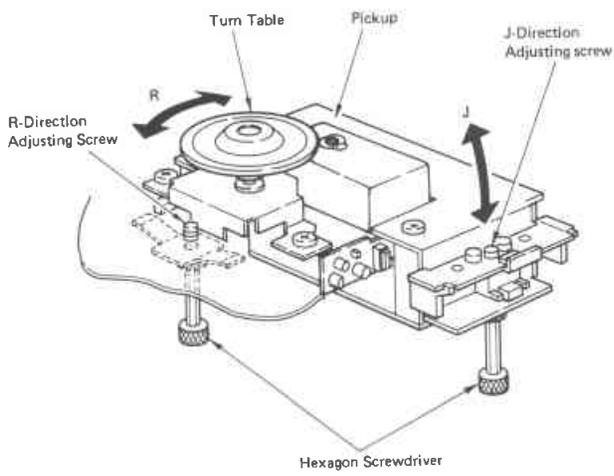

Fig. 11
- 7) Adjust the R-direction of the pickup. (Fig. 11)
- 8) Adjust the J-direction of the pickup. (Fig. 11)